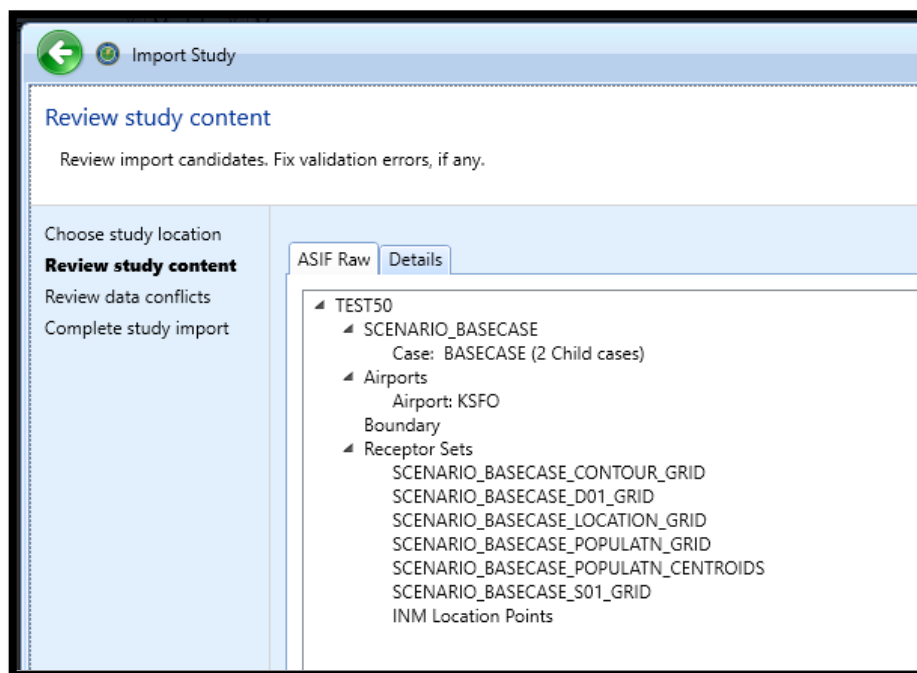

Figure 63. Review study content – ASIF Raw tab
- If the message does not appear, the *ASIF Raw* tab will display a summary view of the study (Figure 63).